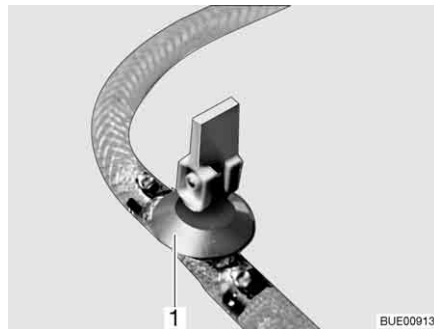

Fig. 178 Drain cock
- Close the drain cock(s). Position the rocking lever (Fig. 178,1) horizontally.
- Open drain cock(s) (Fig. 178). To do so, set the rocking lever (Fig. 178,1) in a vertical position. The boiler is drained to the outside.